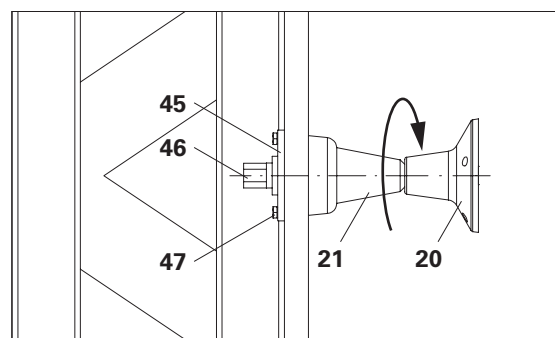

Fig. A5.10
1. Insert Positioning Screw M24 (46) from the rear side of the formlining through the hole.
2. From the front side of the formlining, tightly screw on the tie (20 + 21). (Fig. A5.10)
3. Firmly connect threaded anchor plate (20) to the reinforcement to ensure a secure position.